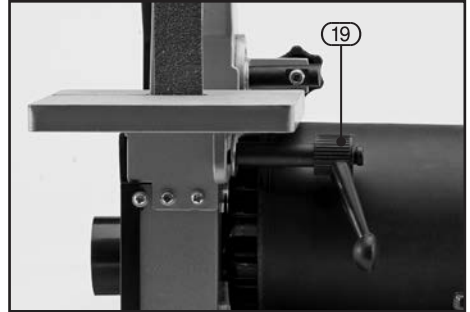

FIG.6
8.5 WORK SUPPORT TABLE ADJUSTMENTS - FIG. 6